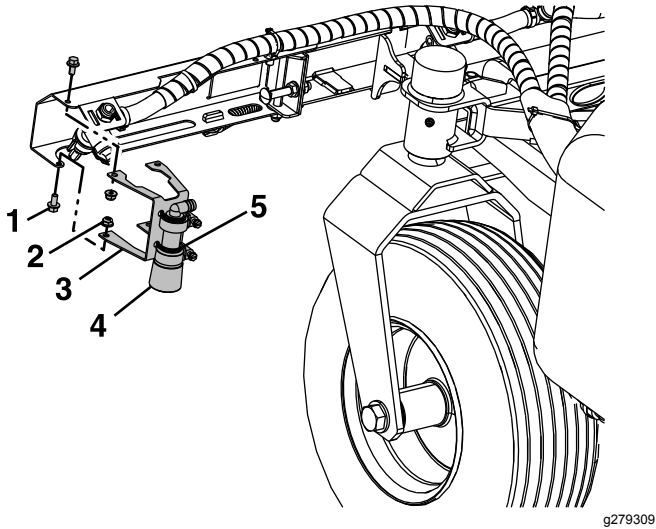

Figure 10
13. Using two 1/4-20 x 1/2 inch bolts and nuts, secure the foam nozzle bracket assembly to the LH side of the frame as shown in Figure 10. Attach the foam marker nozzles to the nozzle brackets using two zip ties. Repeat this step to install the foam marker nozzle on the RH side.